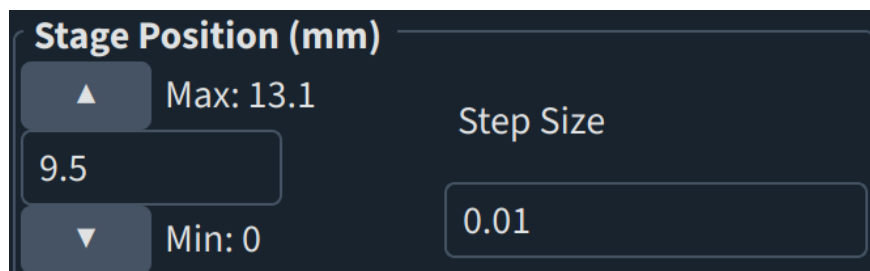

Fig 11: Z-stage settings.
**Stage Position:** The location of the Z-stage can be changed using either the up and down arrows or by manually entering a location (given in millimeters from the highest point where the stage can be positioned) (Fig 11) on the Z scale within the “Stage Position Panel”. Step size controls the increment by which the arrows will adjust the height. Adjusting the Z-stage location will move the stage and sample in and out of focus.